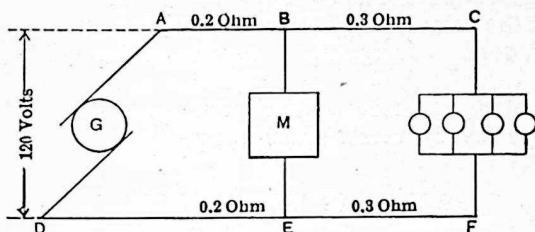

FIG. 70.
**Prob. 9.** Each lamp, Fig. 70, takes 2 amperes. Motor  $M$  takes 10 amp.